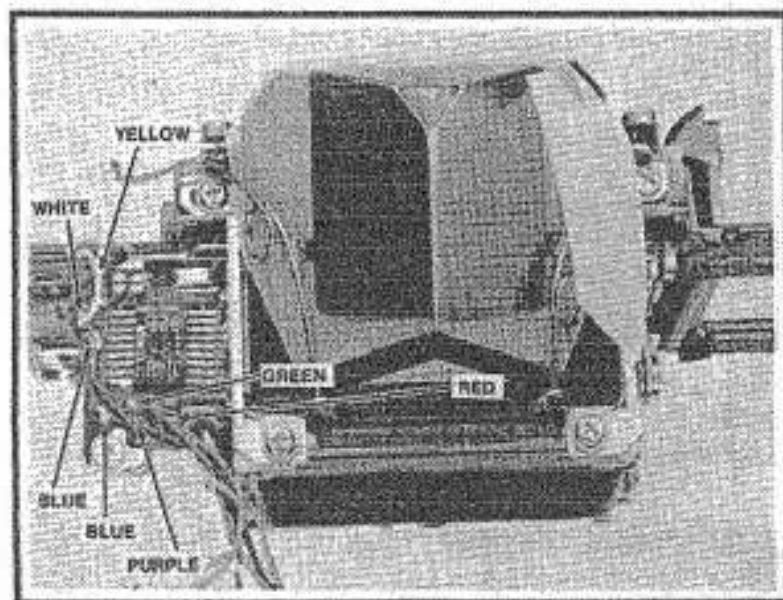
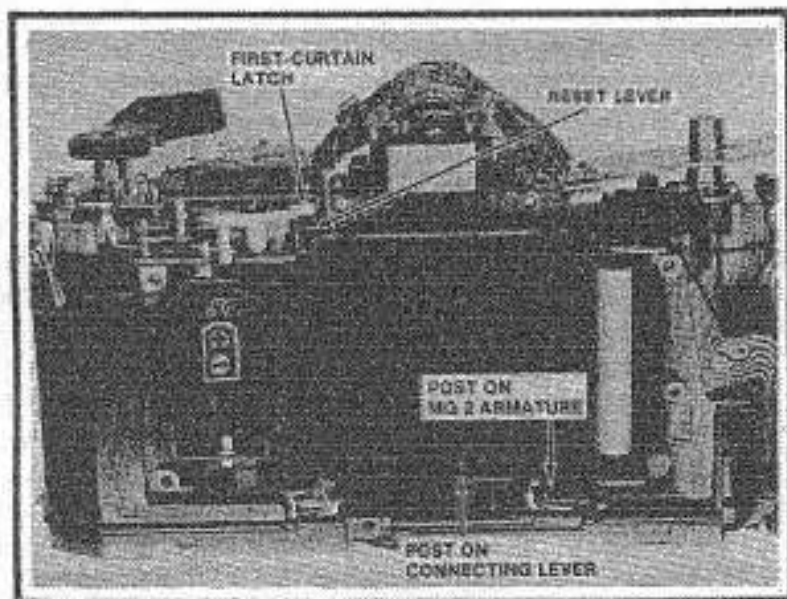
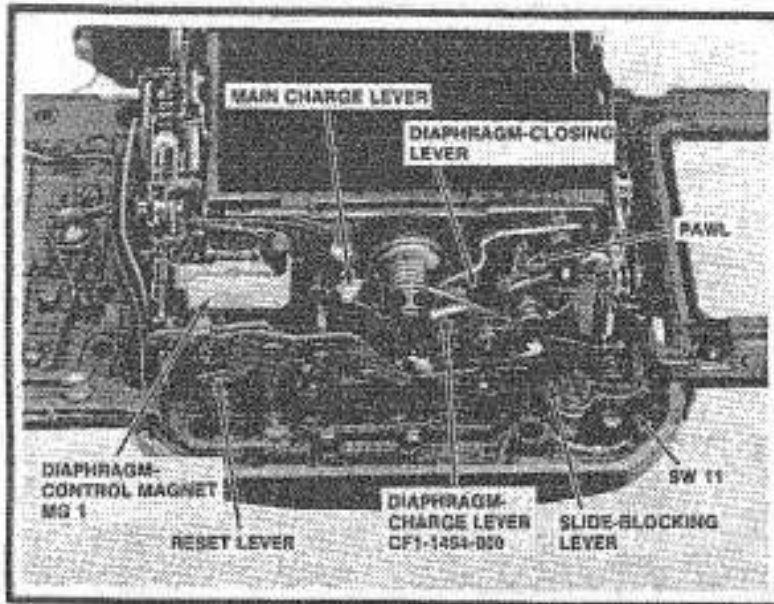
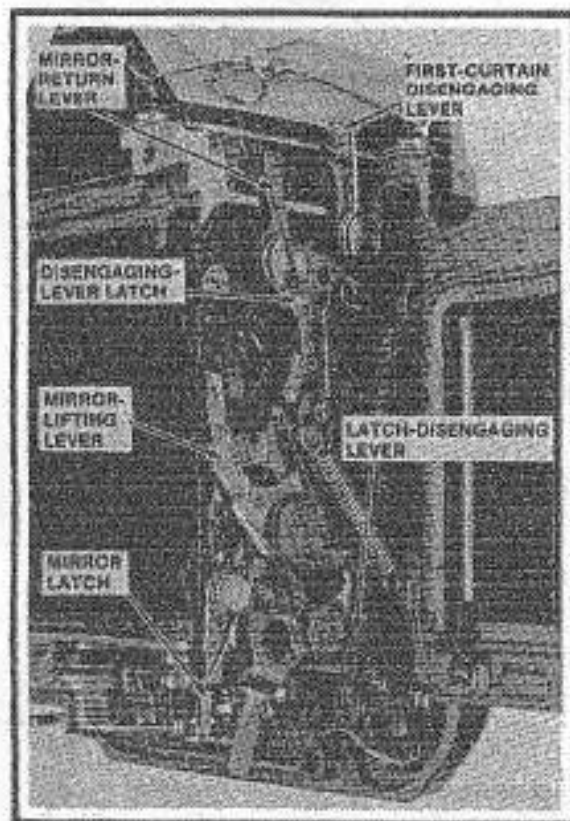

Figure 42
Figure 43
Figure 44
Figure 45
13. Open the battery compartment. Then, inserting your thumb into the battery compartment for a grip, lift out the front-plate/mirror-housing assembly, Fig. 42.
Note: It's possible to remove the front-plate/mirror-housing assembly without taking out the piezo beeper. However, it's difficult to seat the front-plate/mirror-housing assembly with the piezo beeper in place. Removing the beeper also prevents possible damage to the LED display board, Fig. 42.
1. Make sure the shutter is in the released position. To release the shutter, push the first-curtain latch, Fig. 43, toward the back of the camera.
5. As you seat the mirror assembly, pass the wires, Fig. 42, under the film-speed base plate, Fig. 43. The ends of the wires should be accessible at the back of the camera.
The mirror operation is nearly identical to that in other A-series Canons. Cock the mirror by pushing the main charge lever, Fig. 44, in a counterclockwise direction. The MG1 armature now moves against the core of the diaphragm-control magnet.
Release the mirror by pushing the U-shaped end of the reset lever, Fig. 44, toward the front of the mirror assembly. A spring now drives the diaphragm-charge lever, Fig. 44, counterclockwise. The end of the diaphragm-charge lever moves away from the end of the mirror-lifting lever and strikes the mirror latch, Fig. 45.
Disengaging the mirror latch allows the mirror-lifting spring, Fig. 45, to pull the mirror-lifting lever in a clockwise direction. An arm on the mirror-lifting lever comes against a post on the mirror bracket, driving the mirror to the raised position.
The diaphragm-charge lever also operates the diaphragm-closing lever, Fig. 44. A pawl on the diaphragm-charge lever engages the tab on the diaphragm-closing lever. As the diaphragm-closing lever rotates counterclockwise, the pawl carries the diaphragm-closing lever in the same direction. The end of the diaphragm-closing lever, passing through the lens mount, allows the lens diaphragm to stop down.
To return the mirror and reopen the diaphragm, push forward the mirror-return lever, Fig. 45. The mirror-lifting lever now moves counterclockwise—away from the post on
Pushing forward the mirror-return lever disengages the lifting-lever latch to free the mirror-lifting lever. The latch-disengaging lever that disengages the lifting-lever latch also disengages the pawl from the diaphragm-closing lever. Note that the lower end of the latch-disengaging lever, Fig. 45, comes against the pawl-disengaging lever. The pawl-disengaging lever pulls the pawl out of engagement with the tab on the diaphragm-closing lever, allowing the lens diaphragm to reopen.
In normal operation, the connecting-lever post, Fig. 43, charges the mirror. The post comes against the curved end of the main charge lever. A post on the MG2 armature, Fig. 43, strikes the U-shaped end of the reset lever to release the mirror.
The mirror then rises and releases the first curtain. An arm on the mirror-lifting-lever assembly strikes the disengaging-lever latch, Fig. 45. The first-curtain disengaging lever then moves toward the shutter and strikes the first-curtain latch, Fig. 43.
With the mirror housing removed, however, the first-curtain disengaging lever doesn't move. That's because the shutter must first charge the first-curtain disengaging lever. During the cocking stroke, the reset lever in the shutter, Fig. 43, pushes the first-curtain disengaging lever forward—until the first-curtain disengaging lever is latched by the disengaging-lever latch.
The S.AVE contact only controls the diaphragm closure when the lens is at the auto setting. At auto, the pin at the back of the lens pushes in the EM change pin in the lens mount. The EM change pin then opens SW11, the auto/manual switch, Fig. 44.
Also, the EM change pin moves the slide-blocking lever, Fig. 44, into the path of the stop-down slide. The slide-blocking lever prevents you from using the depth-of-field preview on auto. To use the depth-of-field preview, you must first set a manual  $f$ /stop.
As in other A-series Canons, the three panels—the mirror mechanism, the AE unit, and the auto-diaphragm unit—attach to the sides of the mirror housing. You can remove the mirror mechanism, Fig. 45, individually. But remove the AE unit and the auto-diaphragm unit together.
2. Seat the mirror mechanism. Make sure the mirror latch sits behind the arm of the diaphragm-charge lever, Fig. 45. Also position the latch-disengaging lever behind the end of the pawl-disengaging lever, Fig. 45. Replace the three mirror-mechanism screws.
1. Unsolder the blue wire from the LED circuit board, Fig. 42.